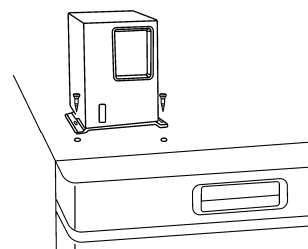

Fig. 2
2. Remove 2 (outside) of 4 screws on the front left of the top panel. Fix the temperature recorder to the top panel by using the 2 removed screws. [Fig. 2]
2. Attach the temperature recorder (MTR-0621LH) to the recorder fixing (MPR-S30) by referring to the instruction manual enclosed with the recorder fixing. [Fig. 2]